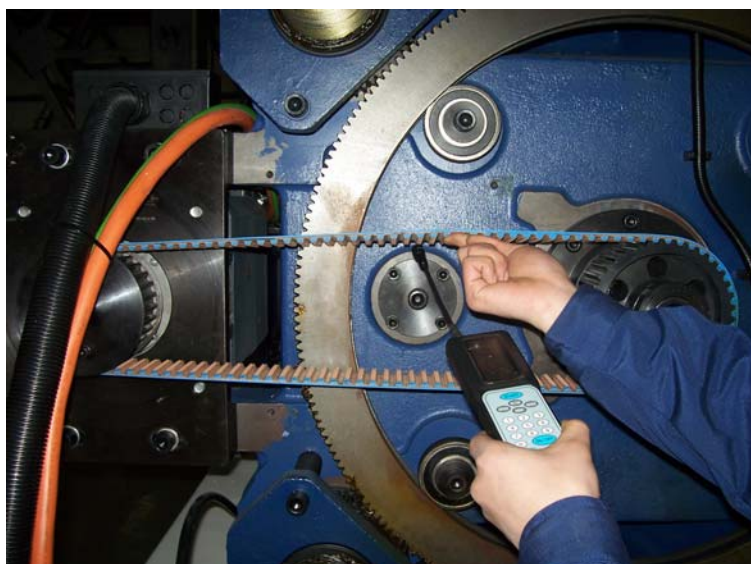

Fig 5.2.7(1) Test method of tensiometer
1、Clamping unit (Codes of components, see Fig 5.2.7(1) clamping unit.)
(2) Test on clamping synchronous-belt tension
⑤ Put the professional tensiometer (fig 5.2.7(1)) (Tensiometer directions refer to appendix II) away from the synchronous-belt about 10mm, and the best